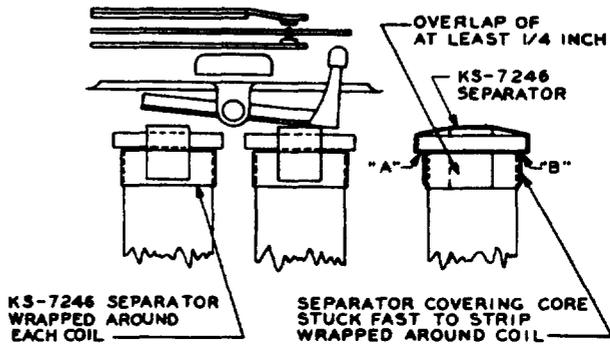

Fig. 7 - Application of KS-7246 Separator
- (1) Before applying the separator, clean the relay as covered in 3.01.
- (2) The addition of paper (approximately 0.002-inch thick) to the core of the relay reduces the armature travel by approximately twice the thickness of the paper. After the paper is applied, check the relay for armature travel, contact separation, contact follow, and electrical requirements, and if necessary, readjust as covered in 3.10, 3.13, and 3.15, making any necessary corrections after allowing for the thickness of the paper.
- (3) Wrap a strip of the KS-7246 separator around the relay coil immediately adjacent to the spoolhead at the armature end of the coil. The length of this strip should be such that one end overlaps the other by at least 1/4 inch.
- (4) Moisten one end of this strip for the full length of the overlap. Position the strip so that it lays snugly against the spoolhead of the coil and stick the moistened end of the strip to the dry end making sure that this band of separator is tight around the coil.
- (5) Place another strip of separator about 2-1/2 inch long between the relay armature and pole piece with the gummed side toward the pole face.
- (6) Moisten the ends of this strip and stick them fast to the band of separator previously placed around the coil exercising care to tuck the strip under the edge of the spoolhead at the points designated A and B in Fig. 7. Use the eraser when this work cannot be done with the fingers. Cut or tear off the ends of the separator strips if they are too long.
- (7) If the relay is already equipped with a separator and the portion between the armature and core is torn, dirty, or damaged in any way, replace the separator. When removing the separator exercise extreme care that no residue of the paper is left on the core.